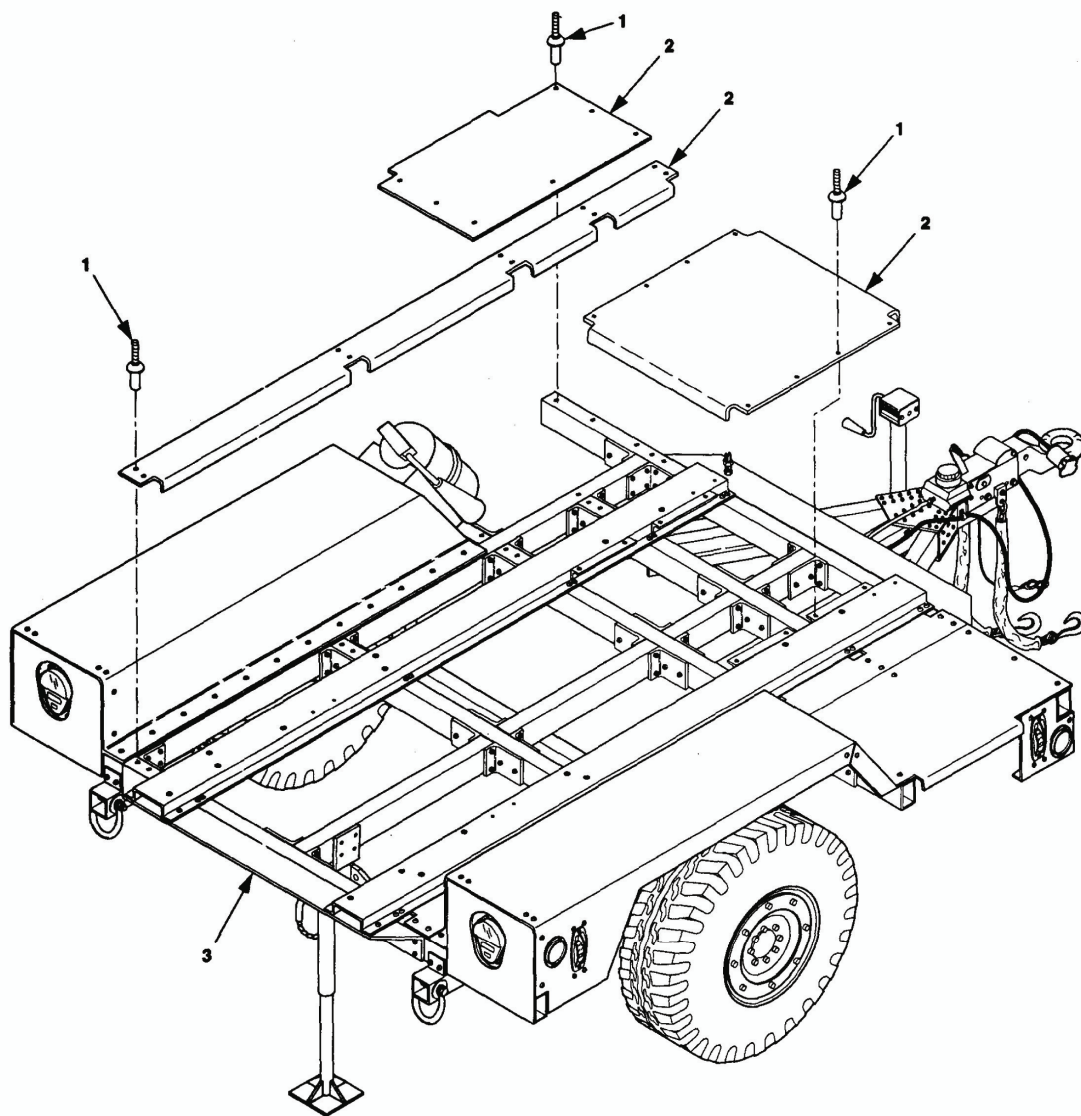

Figure 5-18. PU-801A and AN/MJQ-48A Floor Maintenance.
Remove rivets (1, figure 5-18) and floor sections (2) from trailer chassis (3).
Place floor sections (2, figure 5-18) on trailer chassis (3) and secure with rivets (1).